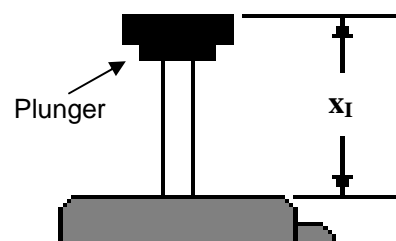

FIGURE 3
D) After making sure that the spring is *not* compressed, measure the uncompressed length of the plunger, x_I . See **Figure 3**. Place this value in the chart.
G) Measure the compressed length of the plunger, x_F . (Same idea as in Figure 3.) Calculate the compression distance of the spring by ... $x = x_I - x_F$ and place this value in the chart.